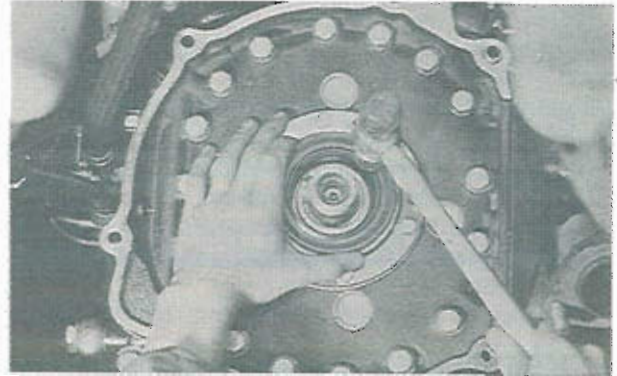

Fig. 1-16 Installing of oil seal
3. Apply lubricant onto the lip of the oil seal and install the oil seal using a plastic hammer, as shown in Fig. 1-16.